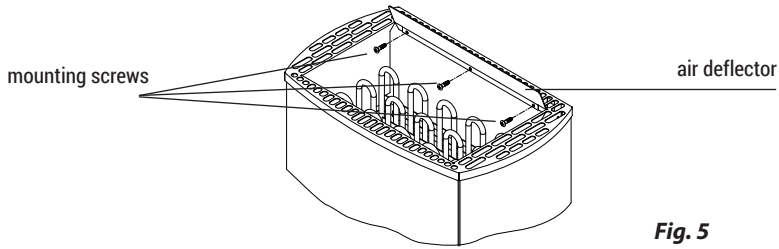

Fig. 5
- Attach the enclosed air deflector as shown in Fig. 5. To do this, first remove the two outer screws on the top cover and then mount the deflector using these two screws and one more screw 4.2 x 9.5 from the poly bag.